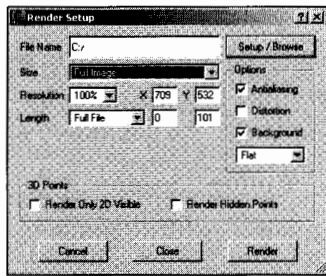

Figure 4.8 The Render Setup panel
2. Choose 3D Scene > Render Setup (Figure 4.8). This is where you set up all the parameters for your render from MatchMover Pro. You will probably want to render the full length of the clip at 100% size. You can choose a file type and use a compressor if you'd like, but don't compress it so much as to make it visually difficult to see the markers. You should also render out the markers as Anti-Aliased, which will make them smoother.